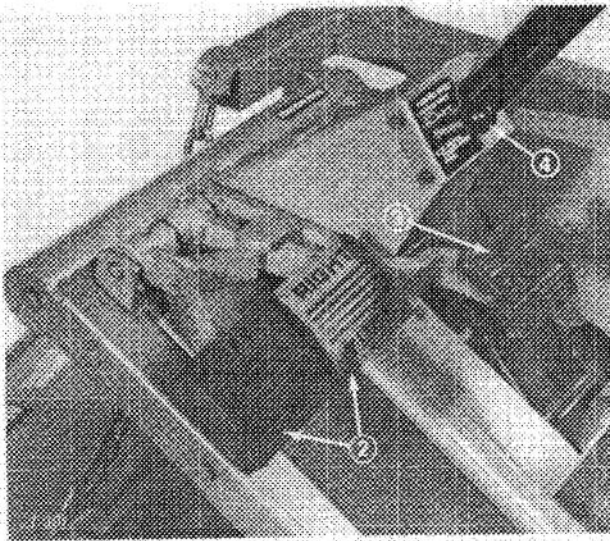

Figure 19
**Traction Pedal (Fig. 19)** — Traction pedal has two functions; one is to make the machine move forward, the other is to make it move backward. Using the heel and toe of the right foot, depress top of pedal to move forward and bottom of pedal to move backward. Ground speed is proportionate to how far pedal is depressed. For maximum ground speed with no load, traction pedal must be fully depressed while throttle is in FAST position. Maximum speed forward is approximately 9.5 mph (15 km/hr). To get maximum power under heavy load or when ascending a hill, have throttle in FAST position while depressing traction pedal slightly to keep engine rpm high. When engine rpm begins to decrease, release traction pedal slightly to allow engine rpm to increase.
**Turn Pedals (Fig. 19)** — The left and right turn pedals are connected to the left and right front wheel brakes. Since both brakes work independently of each other, the brakes can be used to turn sharply or to increase traction if one wheel tends to slip while operating on a hillside. However, wet grass or soft turf could be damaged when brakes are used to turn.
**Brake Pedal (Fig. 19)** — Whenever the engine is shut off, the parking brake must be engaged to prevent accidental movement of the machine.